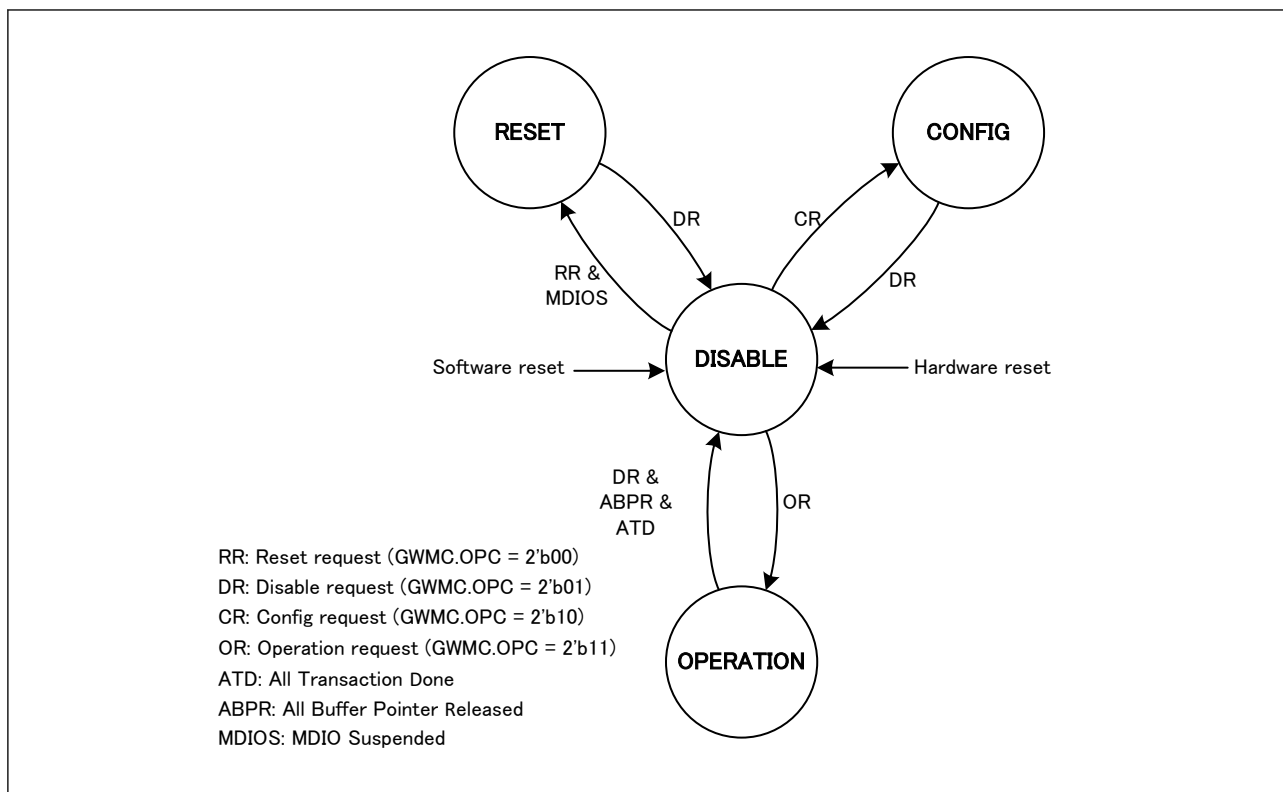

Figure 33.2 Operating mode transitions
Figure 33.2 shows the operating mode transitions.
- Software shall only trigger transitions shown in Figure 33.2